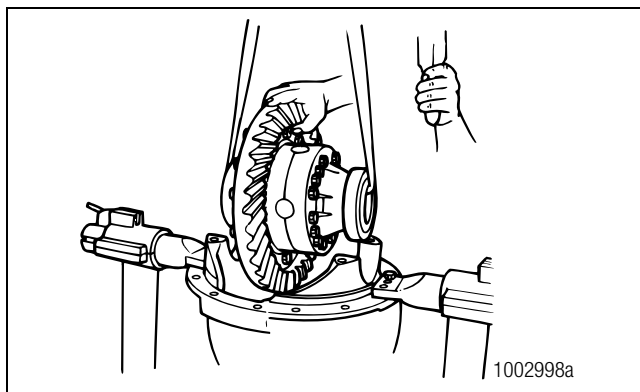

Figure 3.14
9. Use a lifting strap to lift the main differential and ring gear assembly from the carrier. Place the assembly onto a work bench. Figure 3.14.